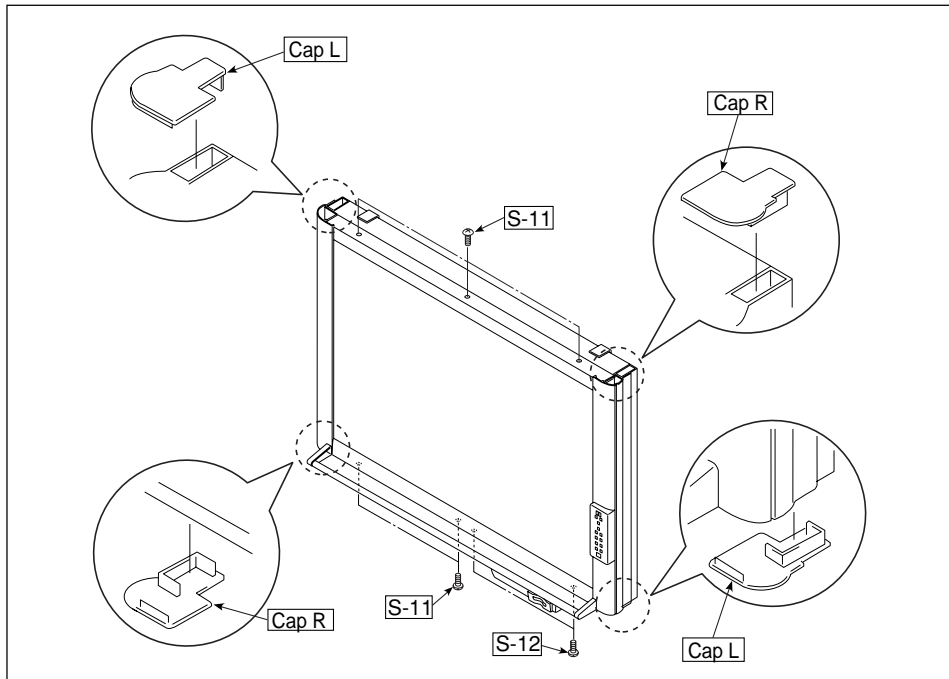

Fig. 10
5) Remove the Frame Cover Section. (See Fig. 10.)
1. Remove the "S-11" and "S-10" screws shown in Fig. 10. The S-12 screw is removed only when the Main Board Assy is not removed. (Remove the connector connected to the Main Board Assy.)